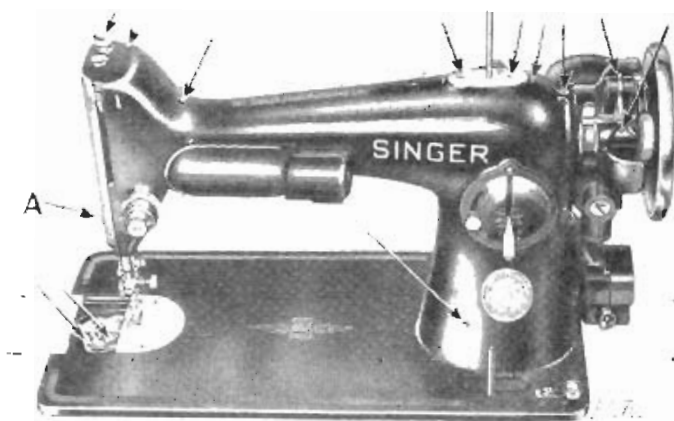
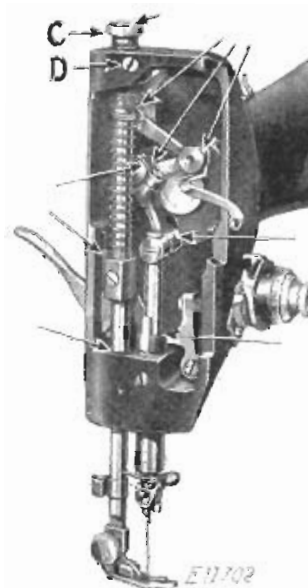

FIG. 63. FRONT VIEW, SHOWING OILING POINTS
FIG. 64. END VIEW,
If used continuously, the machine should be oiled each day. With moderate use an occasional oiling is sufficient. Oil should be applied at each of the places indicated by arrows in Figs. 63 to 67, inclusive. One drop of oil at each oiling point is sufficient. Oil holes are provided for bearings which can not be directly reached.
Remove the thumb screw (A, Fig. 63) near the lower end of the face plate, and loosen the screw (D, Fig. 64) near the upper end of the face plate, then raise the face plate and slip it off over the head of the screw (D). Apply one drop of oil at each of the places indicated by arrows in Fig. 64.